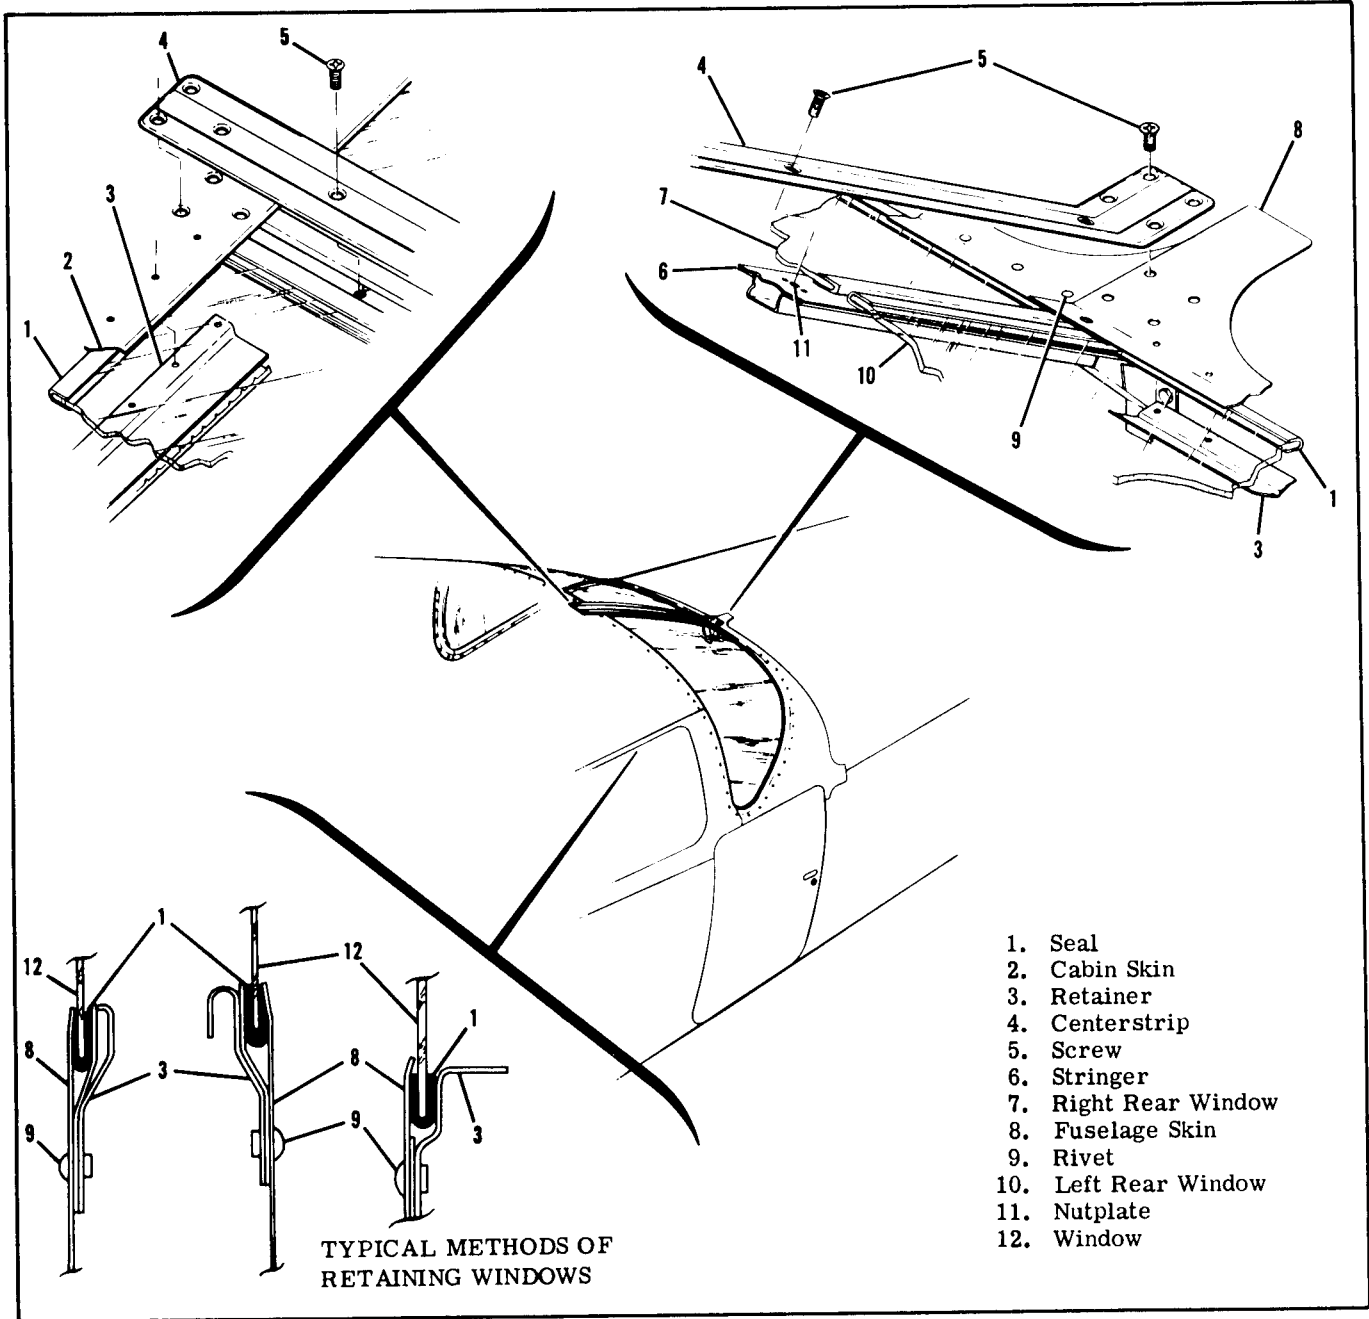

Figure 3-4. Fixed Cabin Windows
**3-11. SIDE AND REAR WINDOWS** (see figure 3-4),